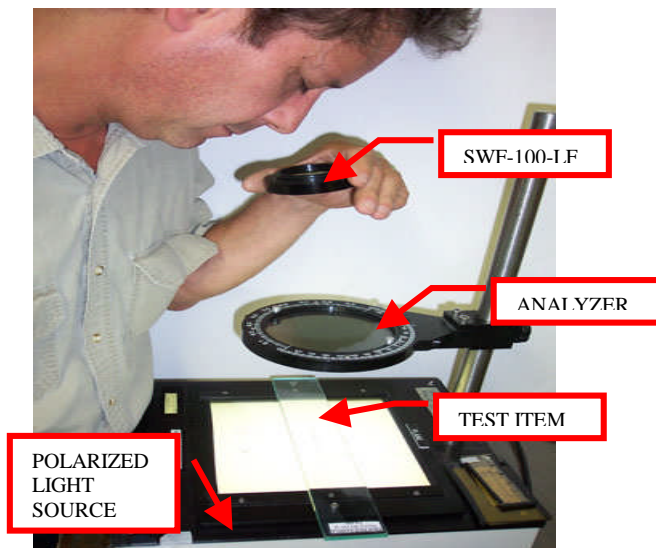

Figure 2. Using the SWF-100-LF Monochromatic Filter with PS-100 Polarimeter
2. Position the SWF-100 filter such that it is between the analyzer and the eye of the inspector (Figure 2).